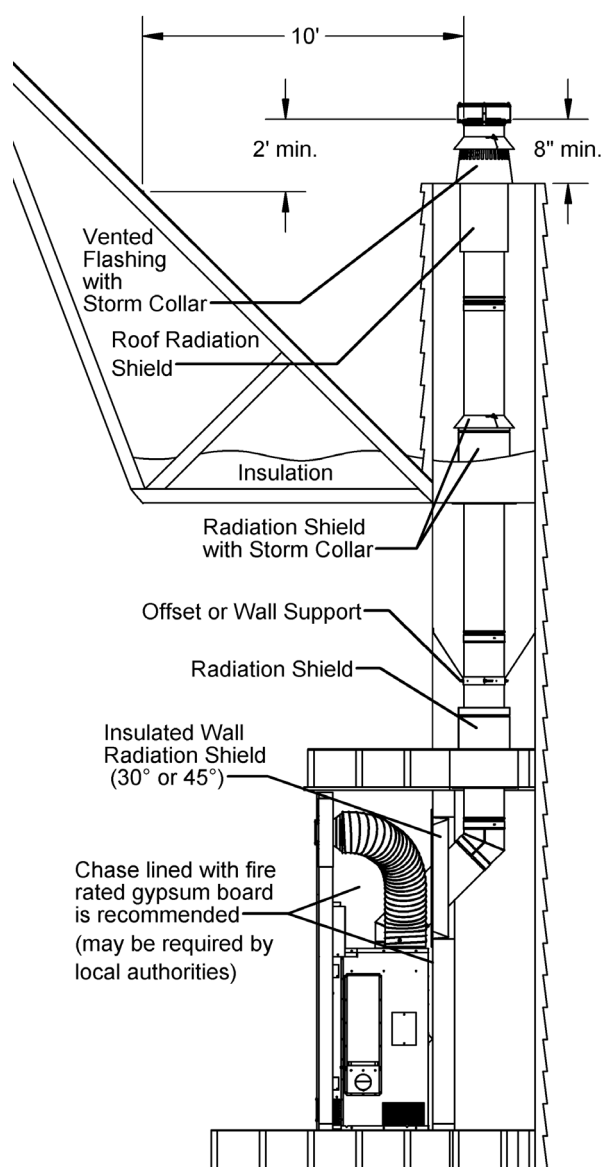

FIGURE 22 EXTERIOR CHASE AND THROUGH THE WALL
If necessary, the chimney can go through a wall at an angle as depicted in Figure 22. An Insulated Angled Wall Radiation Shield (XM-8EWSI30 or XM-8EWSI45) **MUST** be used wherever the chimney passes through a wall to protect the combustible wall structure from the heat of the chimney.
If the chimney runs up the outside of the house, we recommend that it be enclosed in a chase. The chase should be constructed in such a way that it is an extension of the home (see Figure 22). It should be well insulated between the footings and the floor of the home to prevent heat loss.
2. At each floor where the chimney passes through, you must install a radiation shield. At the attic level, install a radiation shield and a storm collar as shown in Figure 7 and Figure 22.